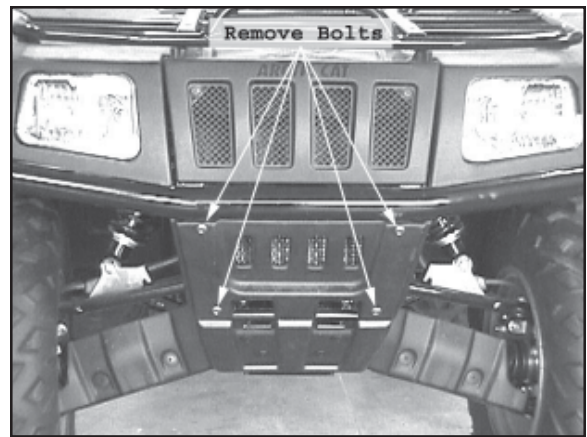

Figure 4 Remove Bolts
5. Remove the plastic cover located on the front of the vehicle by removing the four Torx bolts as shown in Figure 4. Keep the bolts for use later in the procedure.